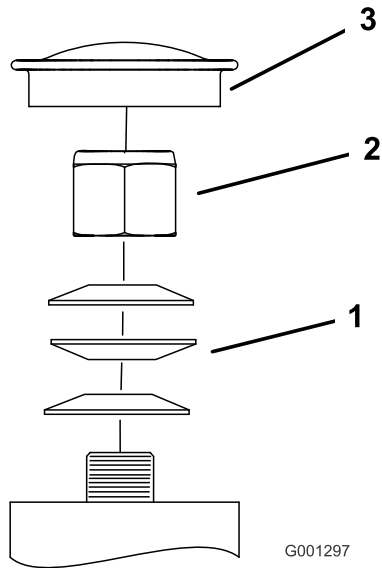

Figure 61
3. Remove the dust cap from caster and tighten lock nut (Figure 61).
4. Tighten the locknut until the spring washers are flat and then back off a 1/4 turn to properly set the pre-load on the bearings (Figure 61).
Important: Make sure the spring washers are installed correctly as shown in Figure 61.
5. Install the dust cap (Figure 61).